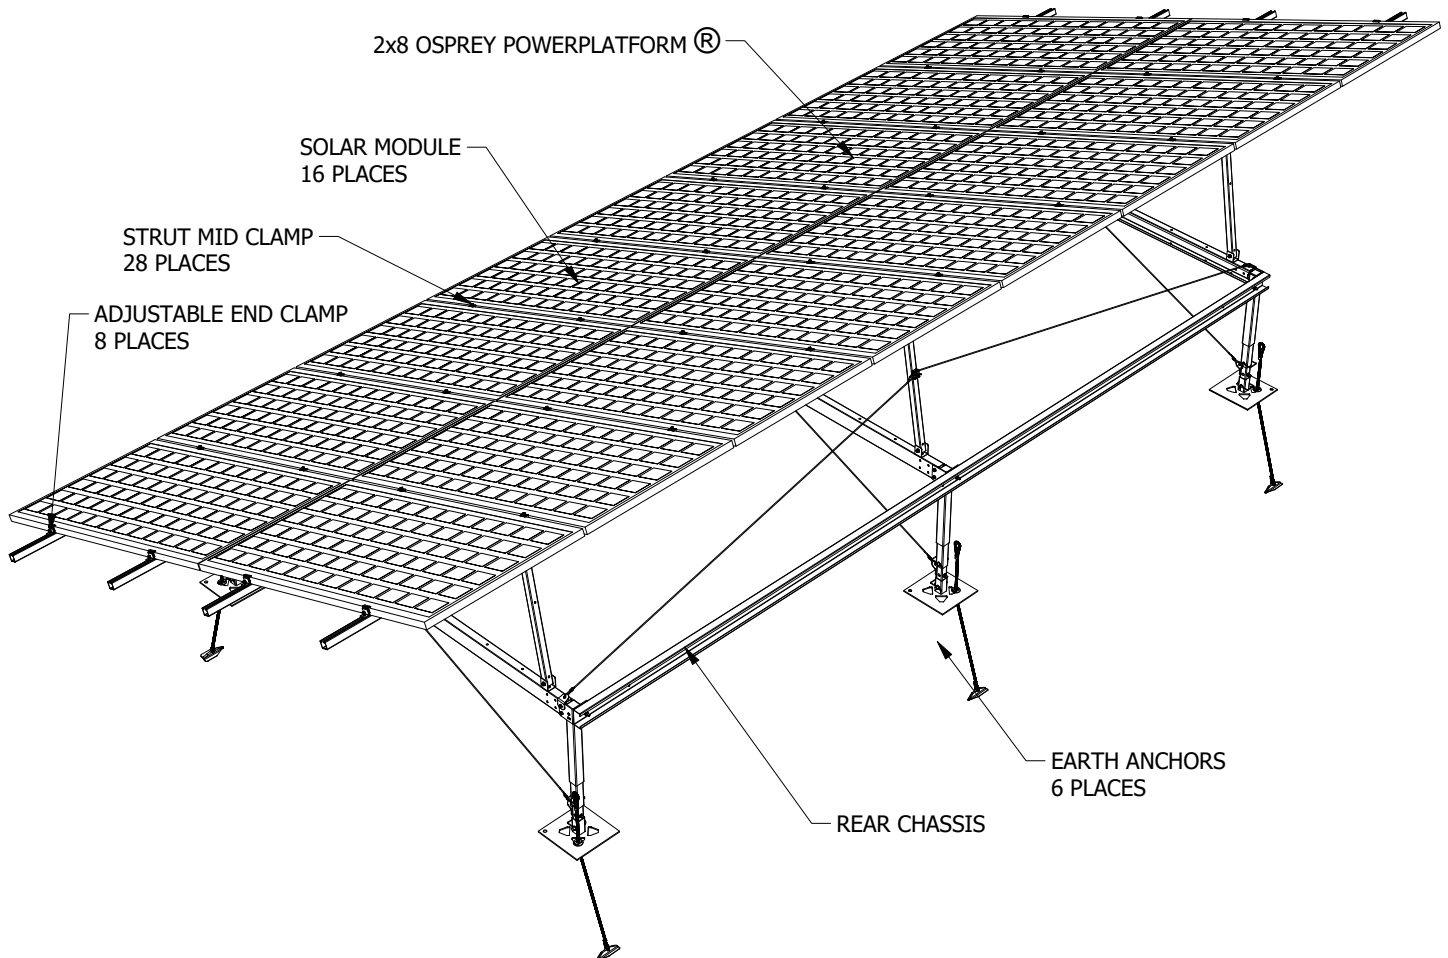

Figure 27: Complete Assembly of the Osprey PowerPlatform®
14. Refer to Figure 27 on next page of the completed Osprey PowerPlatform.